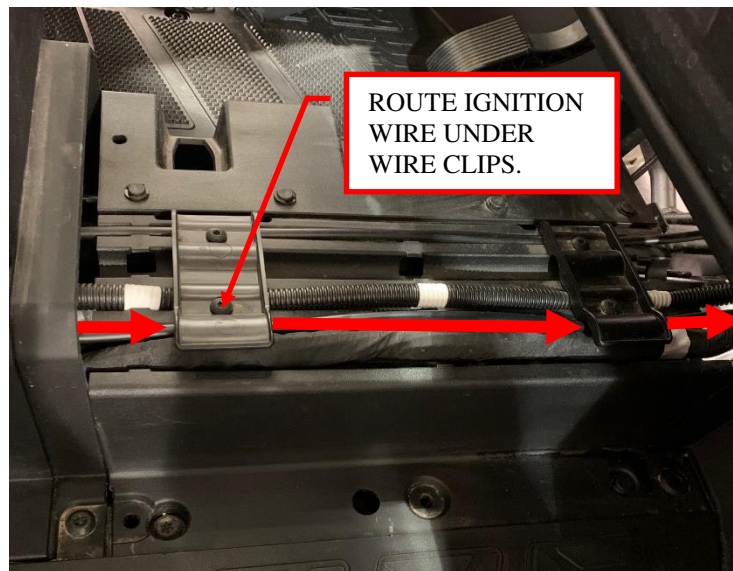

**Figure 9: Remove the radiator hood access panel.**
10. Remove the radiator hood access panel from the front of the vehicle by rotating the ¼ turn clips, lifting, and sliding towards the front of the vehicle. See Figure 9.
16. Reinstall the hood, the wire access tunnel cover, and passenger side under seat tray. The corner of the sea tray flange will flex enough to let the wires through. See Figure 9 and Figure 6.